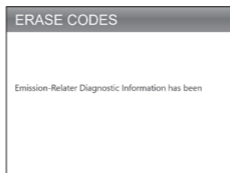

Figure 3.3.2
2. After determining that all repairs have been completed, press [OK] to clear or reset the emission-related diagnostic data. (See Figure 3.3.2)